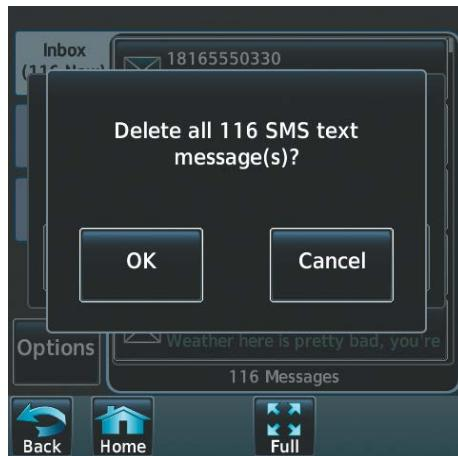

Figure 8-77 Confirm Deletion of Messages
- 3) Touch the **Delete All Messages** Button. A confirmation screen is displayed as in Figure 8-77.